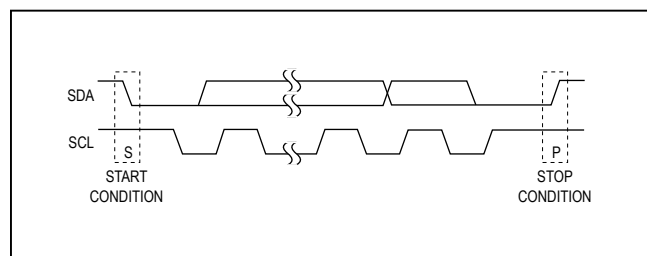

Figure 2. Start and Stop Conditions
Each transmission consists of a START condition sent by a master, followed by the MAX7322's 7-bit slave address plus $R/\overline{W}$ bit, one or more data bytes, and finally a STOP condition (Figure 2).
Both SCL and SDA remain high when the interface is not busy. A master signals the beginning of a transmission with a START (S) condition by transitioning SDA from high to low while SCL is high. When the master has finished communicating with the slave, the master issues a STOP (P) condition by transitioning SDA from low to high while SCL is high. The bus is then free for another transmission (Figure 2).